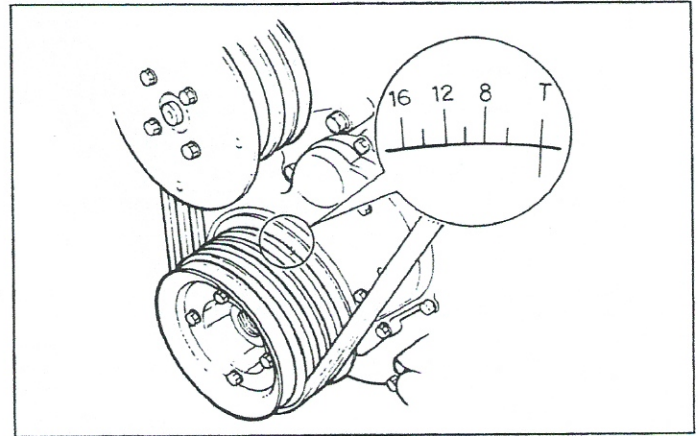

Figure 19. TDC Mark and Crank Pulley Mark
- Turn the crank to align the timing mark on the crank pulley with the TDC mark (figure 19).
9. Observe the timing mark on the crank pulley (figure 19). Refer to "Specifications" for the correct timing figures.